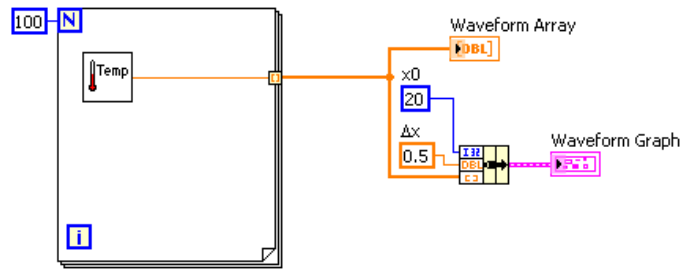

Figure 7.19
1. Modify the block diagram as shown in Figure 7.19.
- (a) Place the Bundle function, located on the Functions>>All Functions>>Cluster palette, on the block diagram. This function assembles the plot elements into a single cluster. The elements include the initial x value (20), the Δx value (0.5), and the y array of waveform data.
- (d) Wire the block diagram as shown in Figure 7.19.